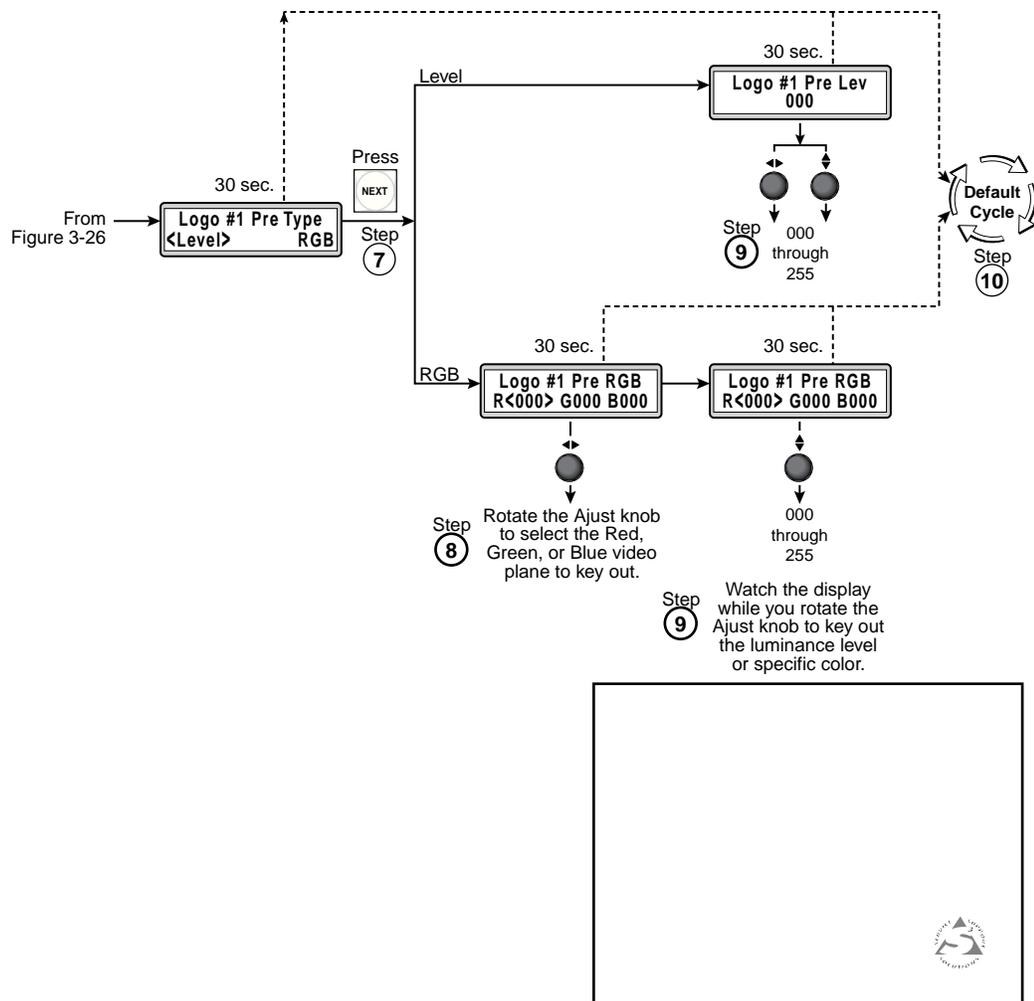

Figure 3-27 — Configuring a logo, continued
- Press the Next button. The Key submenu appears (figure 3-27).